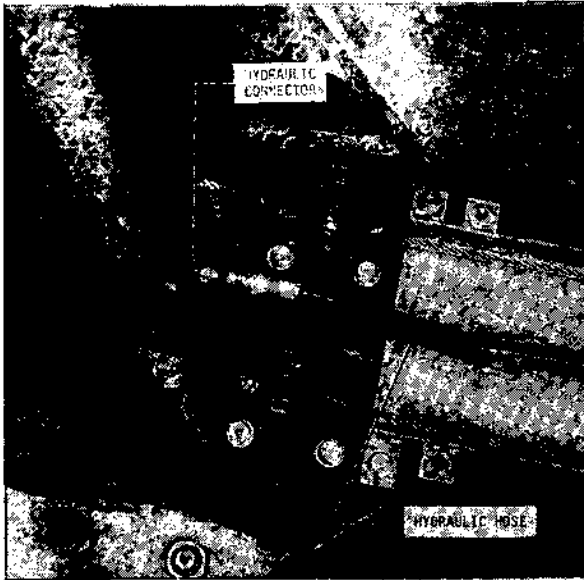

Fig. 20
36. Attach the hydraulic hose between the two hydraulic connectors, one in each post. Tighten hose securely. (See fig. 20).
37. Bend the tabs together that are located in the center of the trough to hold the hydraulic hose in place. (See fig. 20).